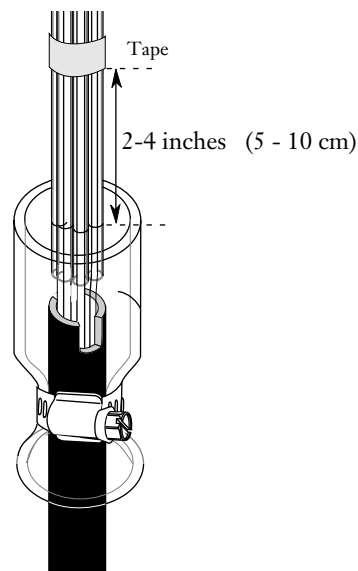

Figure 12
6.4 After all of the buffer tubes are positioned inside the large vinyl tube, group and tape the buffer tubes together with masking tape approximately 2-4 inches (5-10 cm) above the top of the vinyl tube (Figure 12). To assure easy routing into hardware later on, keep the tubes in the same configuration (order) in the vinyl tube that they had in the cable.